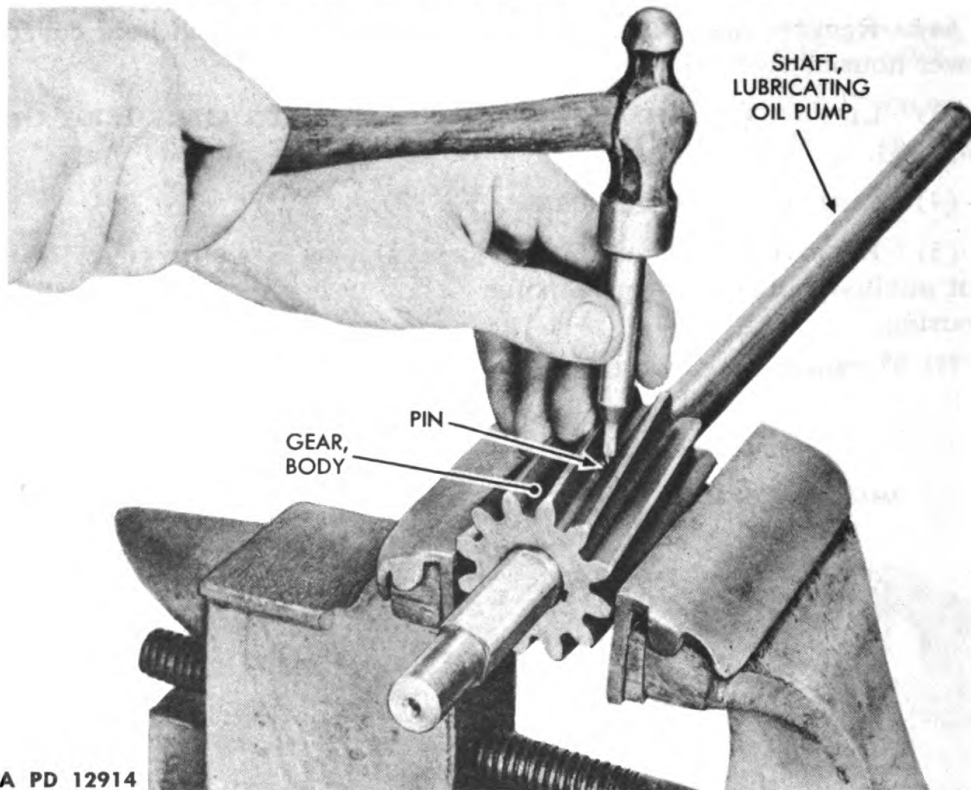

Figure 101—Removing Lubricating Oil Pump Body Gear from Shaft
(10) REMOVE BODY GEAR FROM SHAFT (fig. 101).
(11) DO NOT REMOVE IDLER SHAFT FROM BODY (fig. 101). Body and idler shaft are available as an assembly. In the event that shaft wears, body likewise will wear. Therefore both parts should be replaced.